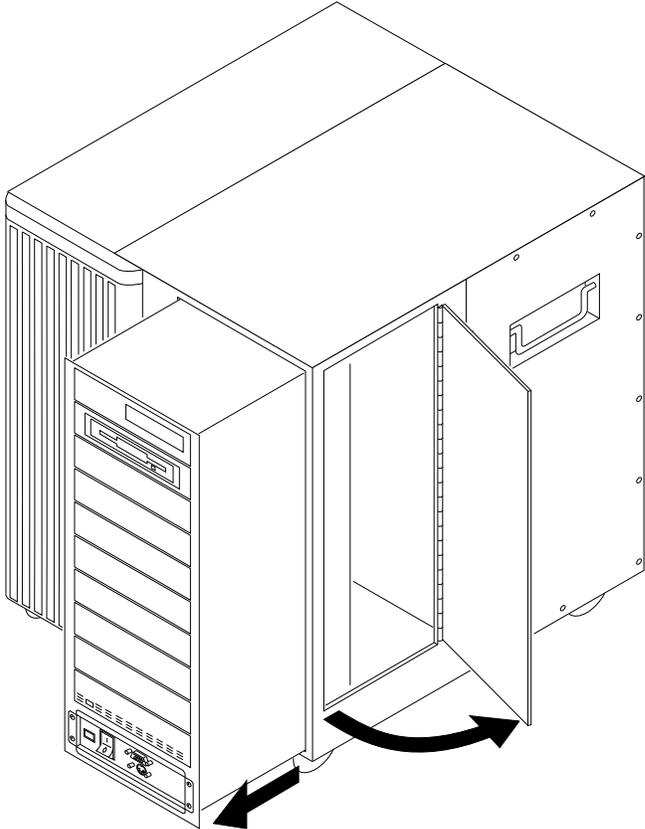

Figure 2-3. MAP/100 - Peripheral Bay Open
Access the peripheral bay and power supply as follows (see Figure 2-3):
4. Loosen the seven ¼-turn fasteners around the perimeter of the peripheral bay access door and open the door. See Figure 2-3.